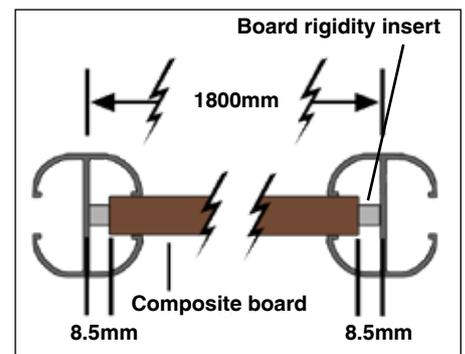
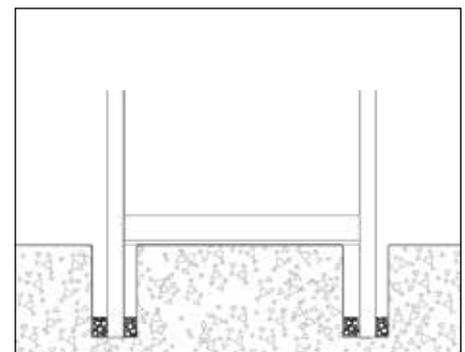

Figure 6
Figure 7
- B.** Pre-position the posts in the holes. The posts must be spaced at 1800mm between the post centres, see **Figure 6**. Use a board rigidity insert (**72FPR18G**) as a spacer to get the distance correct. It is necessary to leave a gap of 17mm between the fence board and the centre rib of the posts (8.5mm either side) and the board rigidity insert (**72FPR18G**) will allow for this. See **Figure 7**.